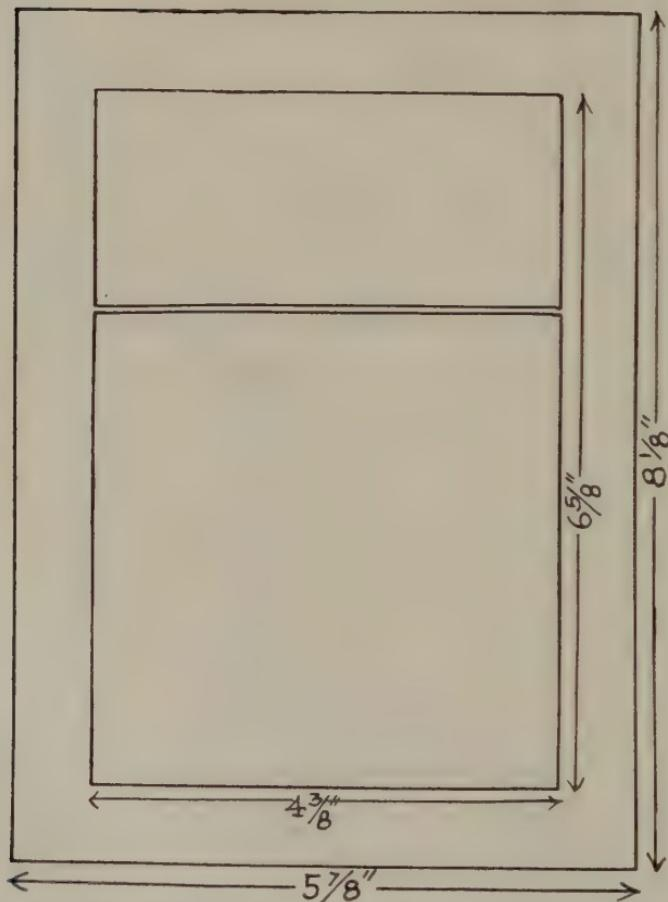

FIG. 69—DIAGRAM OF EASEL BOARDS, SHOWING LAYOUT AND DIMENSIONS FOR COVERING PAPER FOR VISIBLE SIDE.
6. Take the two pieces of board $4\frac{3}{8}$ " x $2\frac{1}{2}$ " and $4\frac{3}{8}$ " x $4\frac{5}{8}$ " and lay them side by side, with edges "butted" close together. (Fig. 69.)
7. Now cut a "facing" piece of a different paper (select a lighter color but harmonious in tone) as you did for the main board. This piece with same allowance of $\frac{3}{4}$ " on all sides for turn-ins will be $5\frac{7}{8}$ " x $8\frac{1}{8}$ ", grain $8\frac{1}{8}$ " way. (Fig. 69.) Cut the corners as you did on the first board.